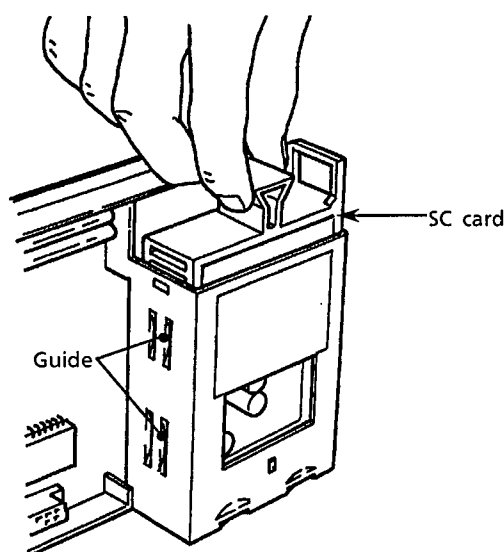

Figure 11.6 Replacing the SC Card
- ① Swing up the front panel, and then remove the internal unit.
- ② Hold the pull-up knob at the top center of the SC card, and pull up (in case of the thermocouple input SC card, with taking care of the cable for the RJC) (see Figure 11.6).